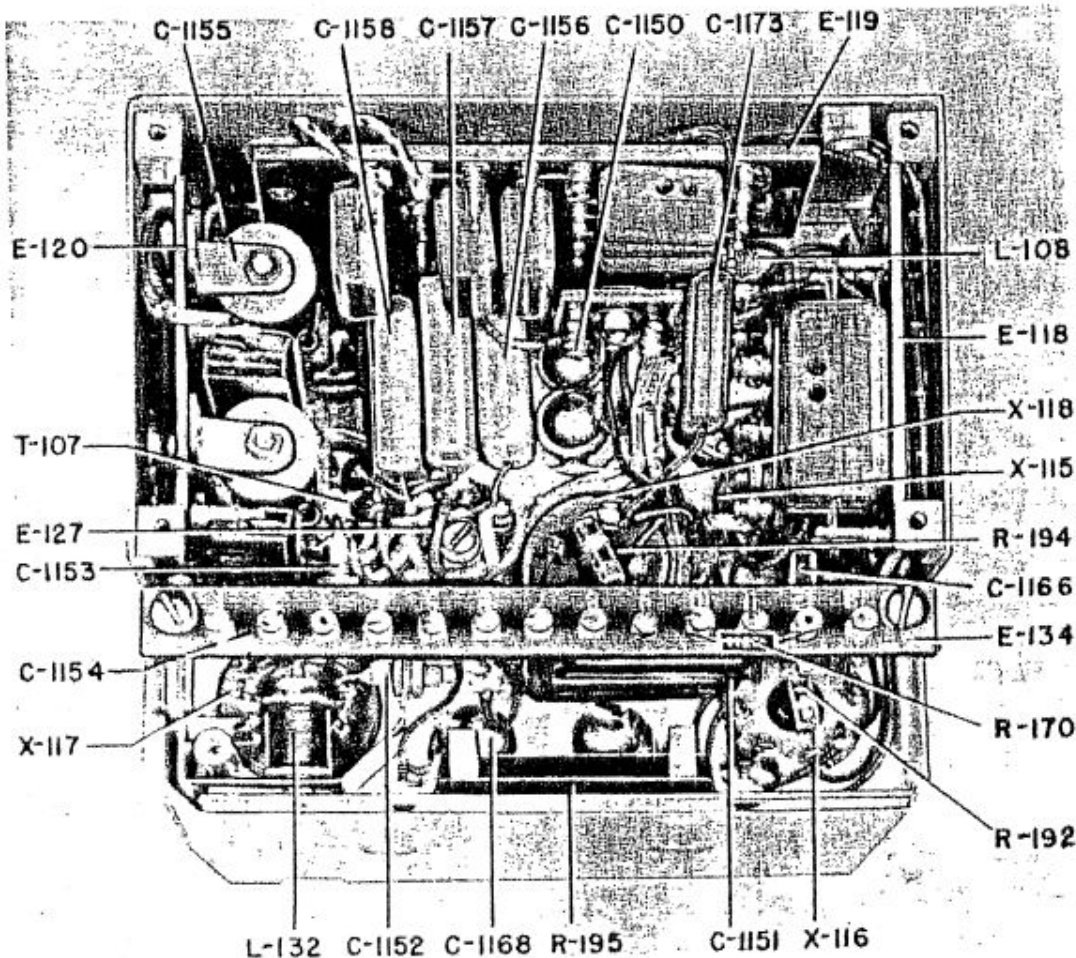

Figure 5-14. Vibrator Inverter Unit Y-101, Used in Radio Compass Unit R-101 / ARN-6, Bottom View
(2) With the function switch in "LOOP" position, check for the presence of +26.5 volts DC input voltage at terminal 9 of the power supply terminal strip. If no voltage is present, check the switch contacts on relay K-102 and connecting wiring. Should the input voltage to power supply be normal check L-108 and L-132 in the vibrator power supply. (See figure 5-14 or 5-15.) Also check wiring and socket connections to the vibrator socket X-117.
(3) If vibrator is operating and loop will not rotate manually with the "LOOP L-R" switch substitute a control box known to be in working order and test operation of equipment. Should equipment fail to operate, proceed according to paragraph 3.b(5) below. If the equipment operates satisfactorily, proceed as follows.
(4) Remove defective control box and check wiring, switch contacts, and components in the manual loop drive circuits.
(5) Make continuity checks through connecting cables and junction board in receiver mounting. With the function switch in "LOOP" position, make voltage checks in the receiver mounting. (See table 5-2.) When making voltage checks in the receiver mounting, it will be necessary to remove the receiver from its mounting and connect receiver to mounting by means of Special Purpose Cable CX-1021/ARN-6, designed for this use. By using this test cable it is possible to gain access to the bottom of the receiver and its mounting while the equipment is operating. Check for the 100 cycle-per-second AC voltage from terminals 38 and 39 to ground. This voltage should be approximately 90 volts AC with the "LOOP L-R" switch in neutral position. If voltage is incorrect, make continuity checks between terminals 38, 39, and 21 in the receiver mounting, to terminals B, C, and E, respectively, on the vibrator power supply terminal board. Also, check for the 100 cycle-per-second voltage from terminals B and C on the vibrator power supply terminal board to ground. The AC voltage should be approximately 90 volts. If the voltage is not present, check transformer T-107, L-135, R-189, R-188, and connecting wires. If vibrator power supply is defective, it may be replaced as a unit. [See paragraph 5.a(5), this section, for replacement instructions.] If vibrator power supply voltages are correct, proceed as follows.
(6) Make continuity checks of the loop drive motor and connecting cables. For resistance readings in Loop AS-313/ARN-6, AS-313A/ARN-6, or AS-313B/ARN-6 see table 5-8. If resistance readings are incorrect, substitute a loop known to be in working order and test the equipment for proper operation.